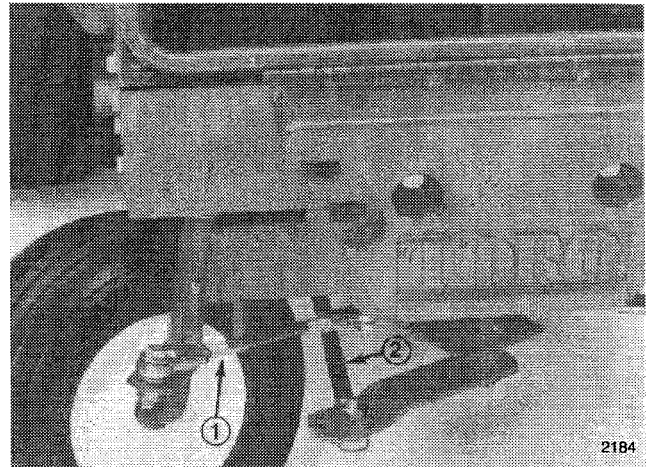

Figure 27
4. Remove the filter from the fuel lines (Fig. 27).
2. Loosening jam nuts and rotate tie rod to adjust front of tires in or out (Fig. 27).
3. Turn steering wheel full left to achieve a full left turn (Fig. 27).
5. Loosening jam nuts and rotate steering rod to adjust clearance (Fig. 27).